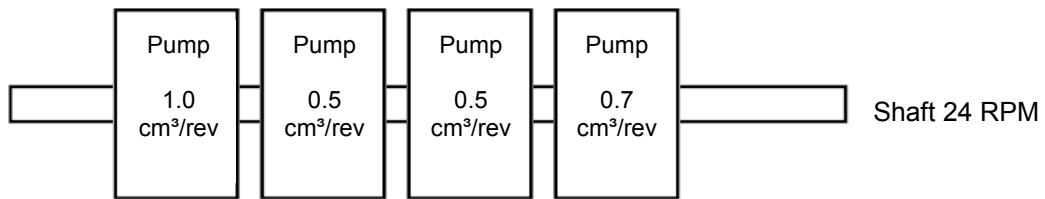

Fig. 9
- 50% of the 1.0 cm3/rev pump is 0.5 cm3/rev. The two center applications are the same (12 g/m2), i.e. both center pumps are the same 0.5 cm3/rev. (see Fig. 9).
- 67% of the 1.0 cm3/rev pump is 0.67 cm3/rev. Select the closest pump from available pumps; it is the pump 0.7 cm3/rev. (see point “Vector Pump Options for Velocity” and Fig. 9). This is a worst case scenario of 3% variation from target.